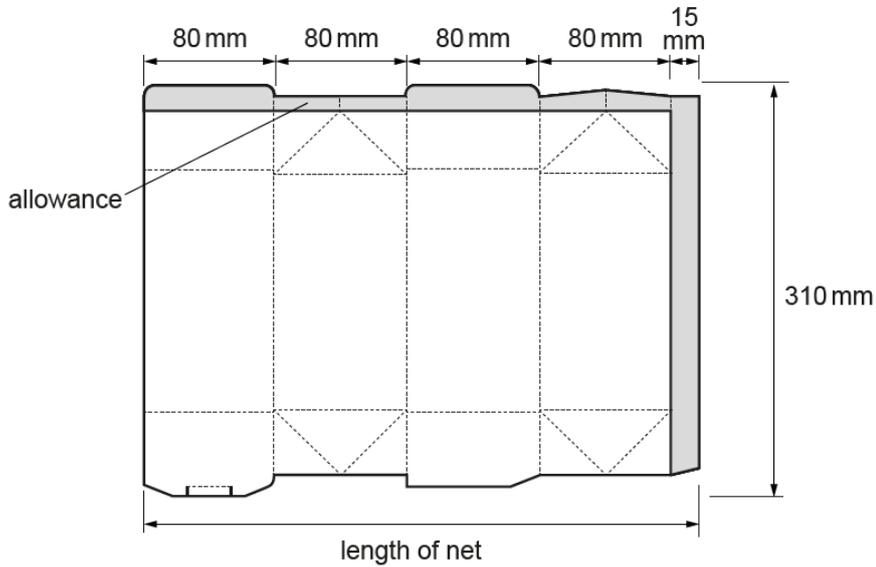

Fig. 2.2
The carton is made from one piece of card using the development (net) shown in Fig. 2.2. An allowance of 15 mm for glue tabs is shown shaded in grey.
- (ii) Calculate the area of card needed to make one carton. Use the dimensions shown in Fig. 2.2. Give your answer in mm².